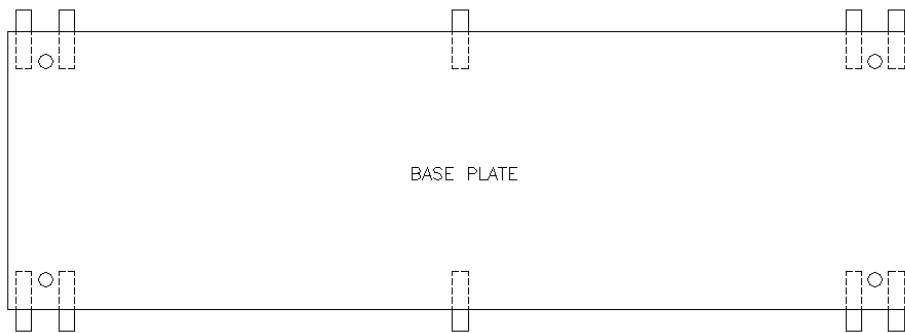

Figure 6-3: Wedge Locations
3. Shims/wedges should be placed on the sub base, as shown in **Figure 6-3**. Use 2 to 3 per stack to obtain desired gap between baseplate and sub-base. Normal gap is 1\"/>